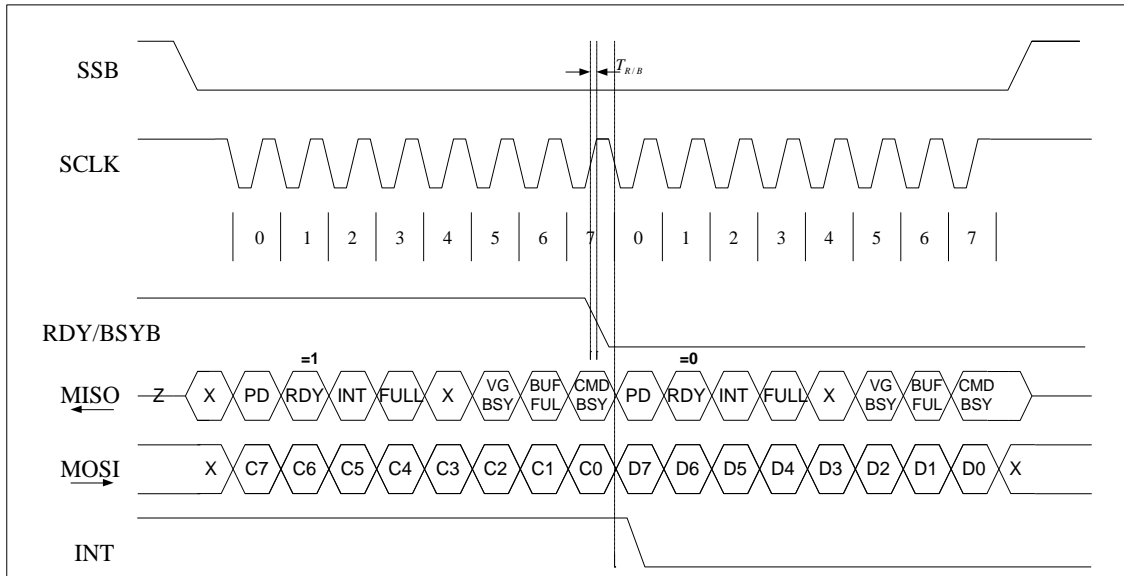

Figure 8-3 SPI Transaction Ignoring RDY/BSYB
For commands (i.e., DIG_READ, SPI_PCM_READ) that read data from the ISD2360 device, MISO is used to read the data; therefore, the host must monitor the status via the RDY/BSYB pin and take the necessary actions. The INT pin will go low to indicate (1) data overrun/overflow when sending data to the ISD2360; or (2) invalid data from ISD2360. See Figure 8-3 for the timing diagram.